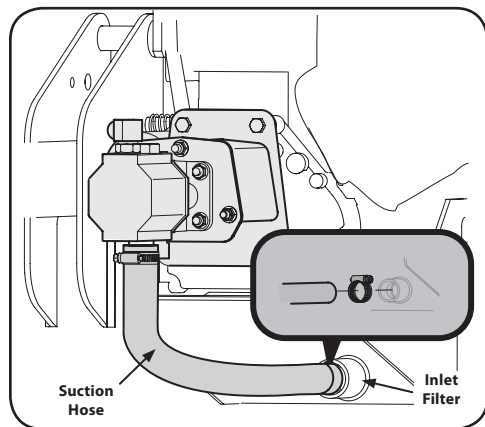
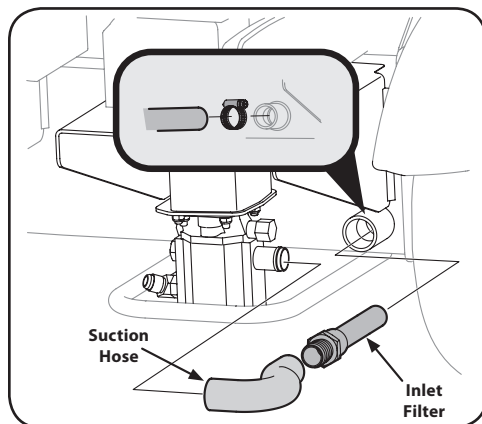

Figure 5-1
Figure 5-2
2. If your engine has a horizontal engine set-up shown in Figure 5-1, refer to Figure 5-1 for changing the hydraulic fluid.
3. If your engine has a vertical set-up shown in Figure 5-2, refer to Figure 5-2 for changing the hydraulic fluid.
4. Disconnect the suction hose from the bottom of the reservoir tank. See Figure 5-1 for horizontal engines or Figure 5-2 for vertical engines.